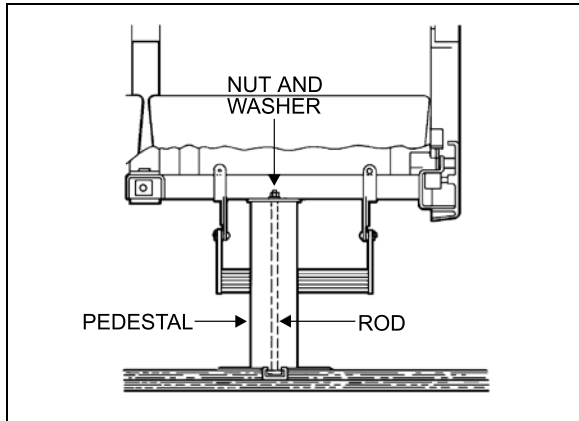

FIGURE 48: SEAT PEDESTAL ASSEMBLY 18107
5. Remove 2 nuts and washers holding seat frame to pedestal rods. See figure 48.